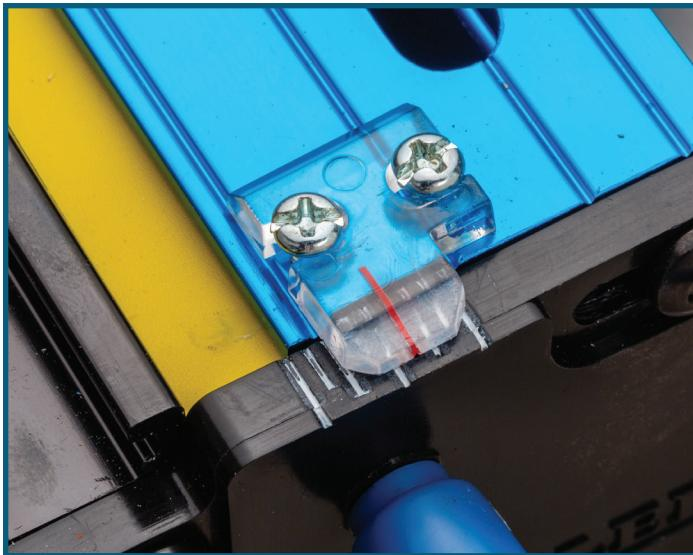

Fig. 2
2. Slightly turn the Micro-Adjust Knob on the back of the fence to move the fence face forward or back, as desired. You can track the adjustment using the clear indicator and scale on the end of the ProMax Fence. Yellow tape on the top of the black part of the fence also will become visible as you adjust the fence face outward. Note that the middle of the fence (where the bit is located) will move about half the distance shown with the indicator lines. We recommend that you make small adjustments to sneak up on the right setting. **Fig. 2.**
3. Tighten the Fence-Locking Knob (13) on the top of the fence to secure the fence face in position.